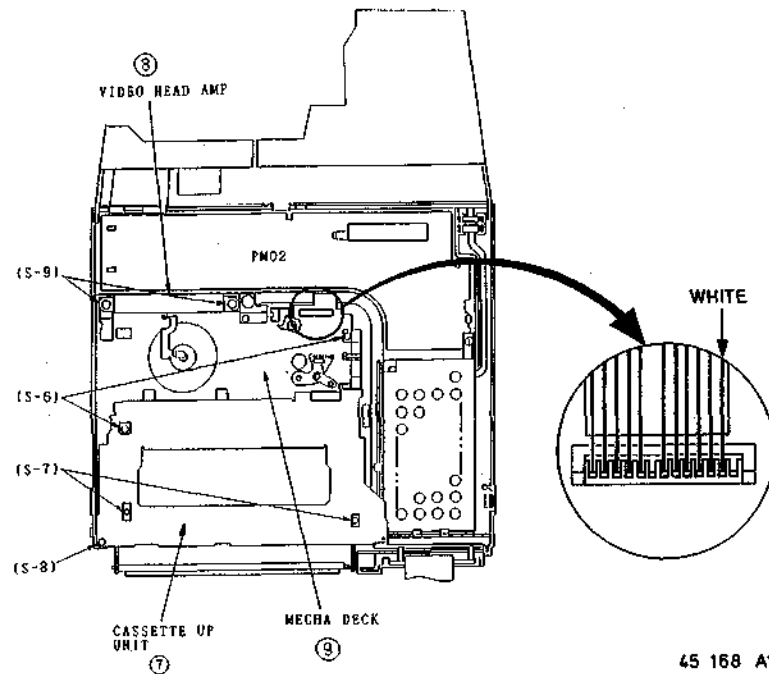

Fig. 19
- Undo the 2 red screws (Fig 19).